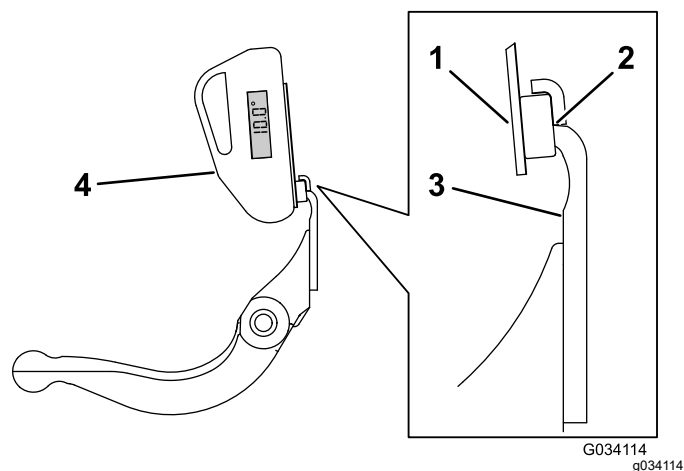

Figure 20
3. Place the angle-indicator mount on the edge of the bedknife so that the edge of the magnet mates with the edge of the bedknife (Figure 20).
4. Place the angle indicator on the mount as shown in Figure 20.